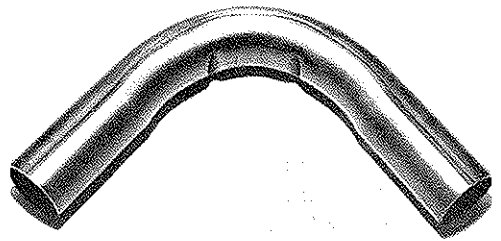

Figure 2
2. Dimpling of pipe on inside of bend (see Fig. 2).